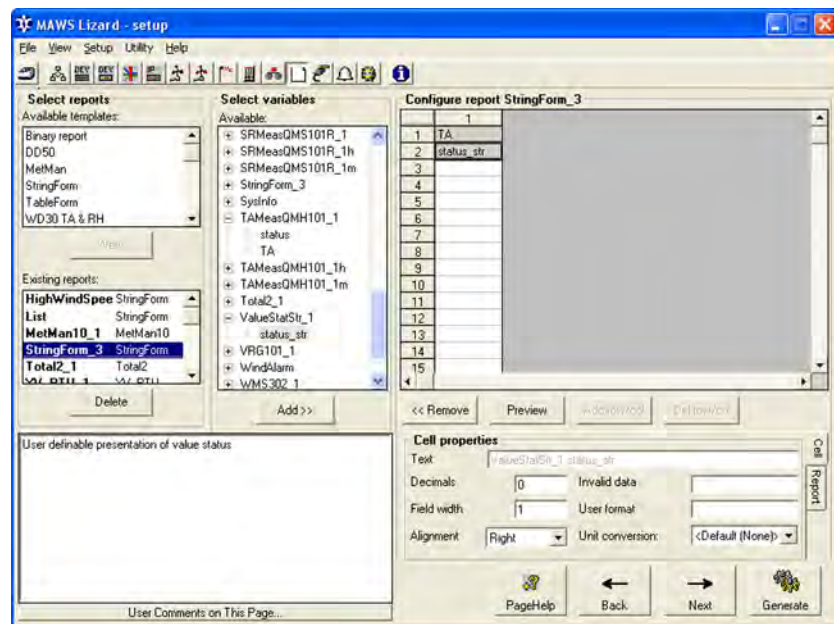

Figure 53 Reports View: Selecting status_str to a Report
2. When the status string is needed, select **status_str** from the **Available** list as shown in Figure 53 on page 113. The **status_str** field is created for a report.